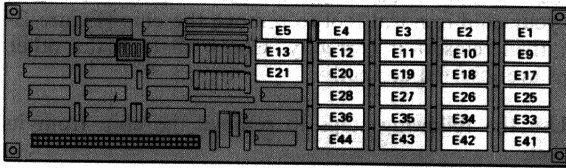

Figure B-8 Memory Board Chip Location Map
B.2.2.2 Identify the Chip Location – Find the E number displayed on your screen and mark it in the Figure B-8.
B.2.2.8 No Visible Problem Found – If you cannot find any visible problem with the failing chip, exchange the chip with another in the same memory bank. Remember to record the new location (E number) of this chip on Figure B-8.